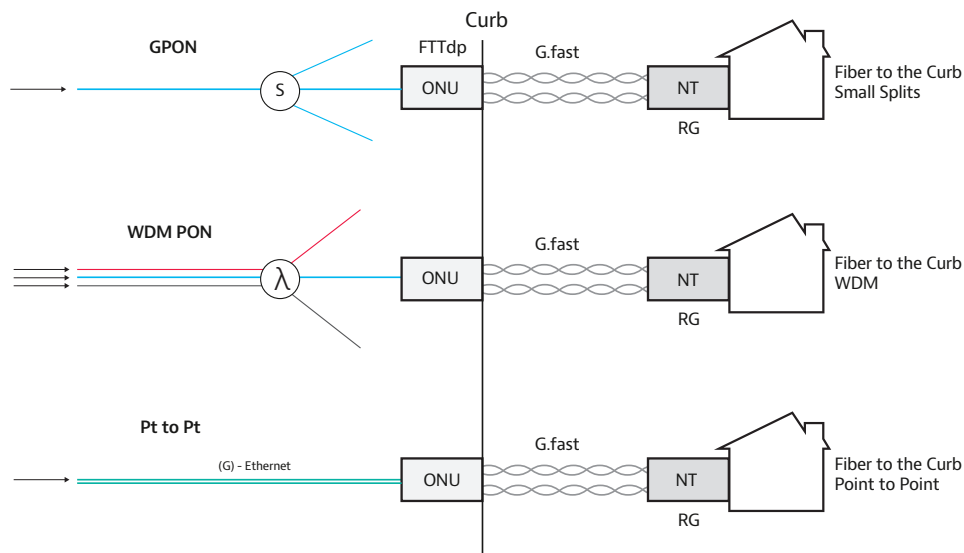

Figure 13. G.fast/optical network configurations
G.fast is the short name given to work in the ITU to define a new copper transmission technology focused on providing much-higher bandwidth over copper loops out to 650 feet (200 meters). G.fast achieves this performance, in part, by increasing the signal spectrum to 200 MHz—although the exact spectrum has not yet been defined. The concept includes FTTCurb designs to achieve the very short loop lengths. The term FTTCurb (distribution point) describes a new type of ONU, shown in Figure 13.